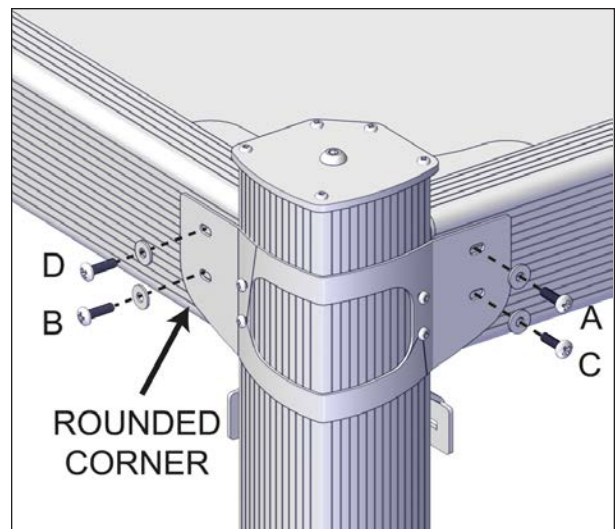

FIGURE 48: CORNER BRACKET INSTALLATION PATTERN
27. Install the first outer corner bracket as shown in Figure 48. Fasten the bracket to the cover
C-Channels with four painted Phillips M6 x 20 mm bolts and 1/4" painted washers. Install the first screw on position A and for the remaining screws, keep following the pattern shown in Figure 48.